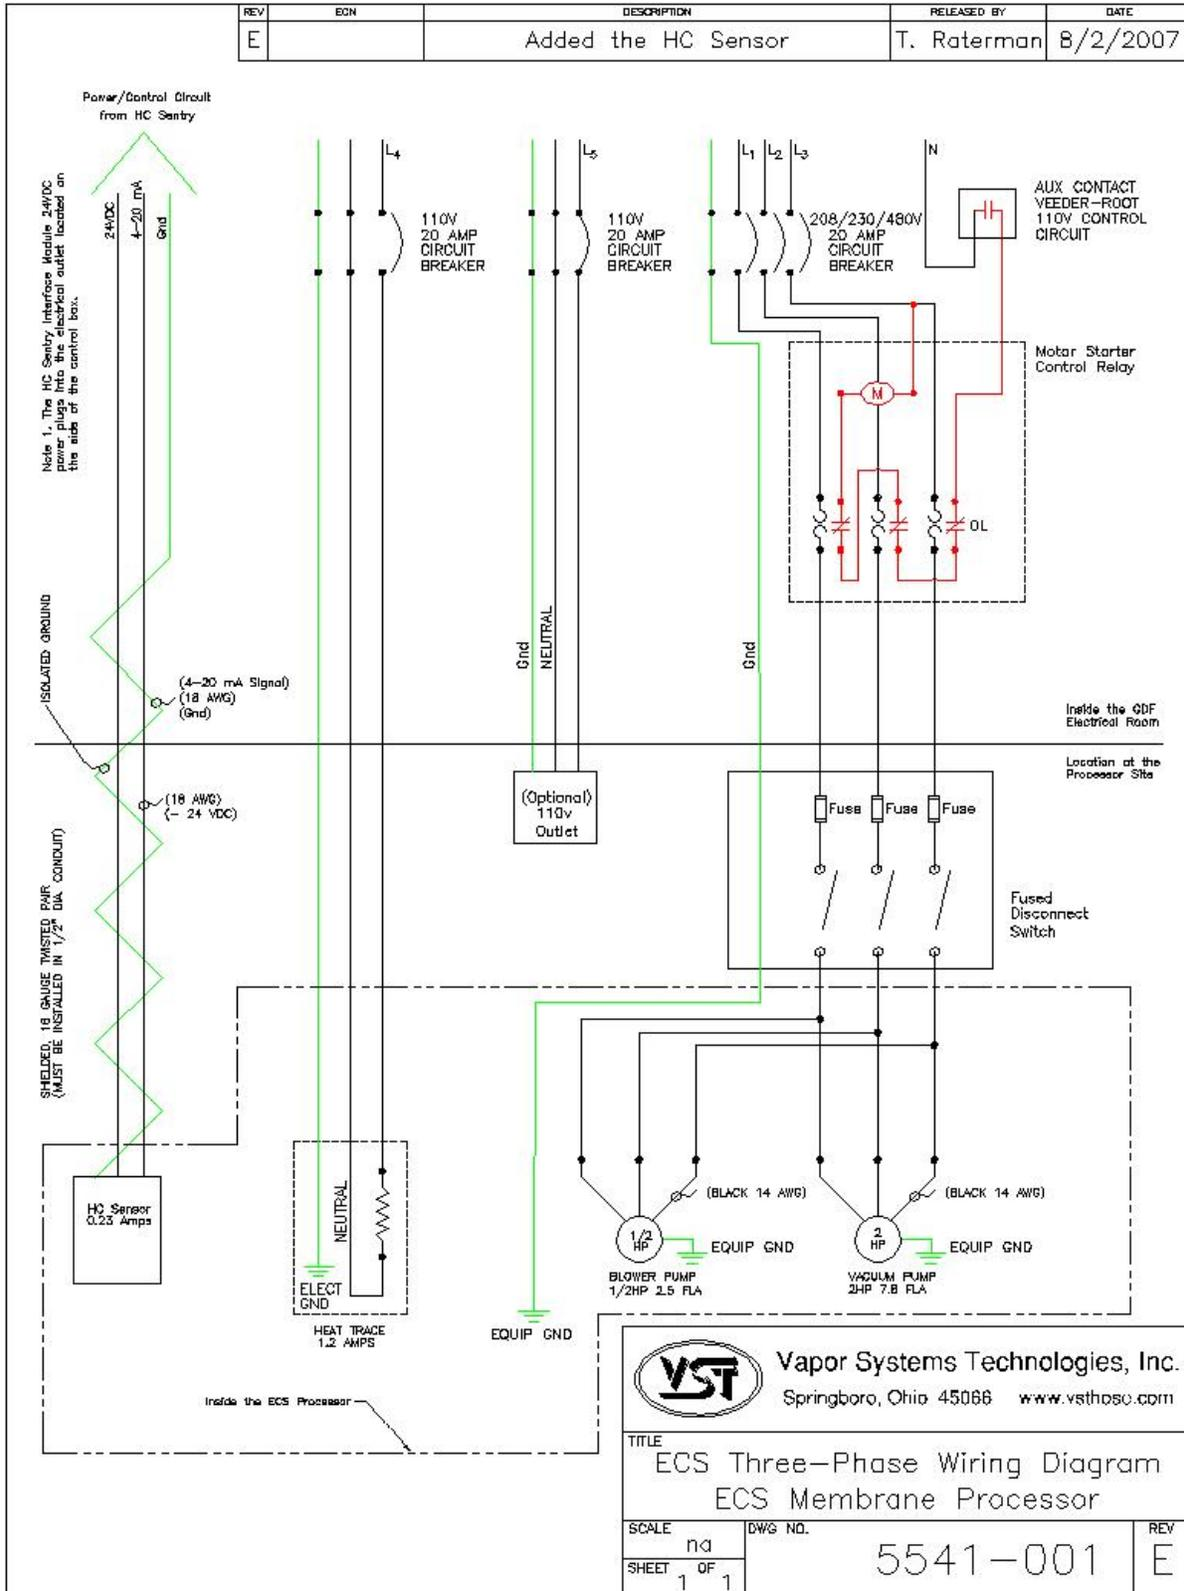

Figure 21: Processor Three-Phase Wiring Schematic
- ▶ **See Figure 21: Section 14 / Page 60.**